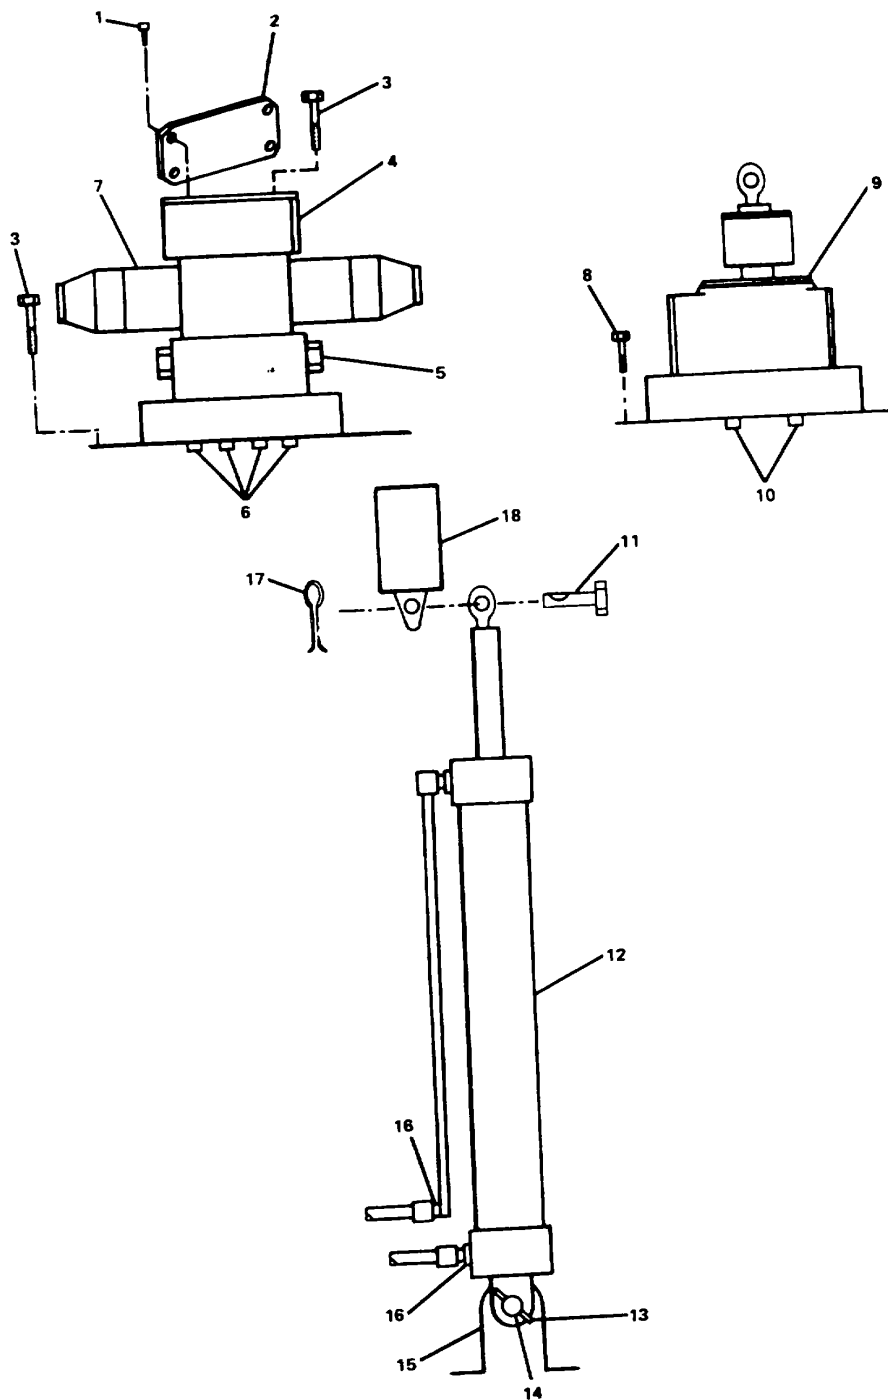

Figure 2-113. Replace Hydraulic Tow Pin Components.
1. Raise tow pins (18, Figure 2-113). Refer to TM 55-1925-207-10.
2. Remove cotter pin (17) and rod (11). Remove tow pin(18).
3. Tag and disconnect hydraulic connections (16).
4. Remove cotter pins (13) and rod (14) from clevis mount(1 5).
5. Remove hydraulic cylinder (12).